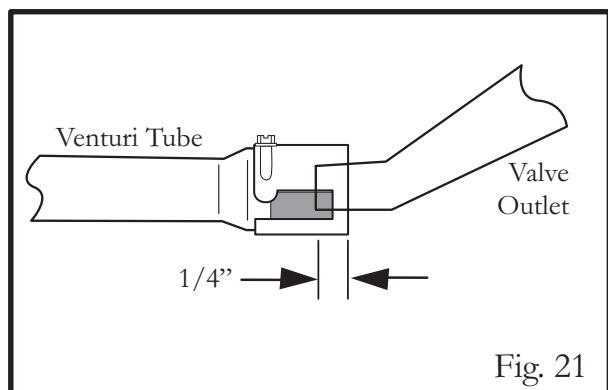

Fig. 21
• Reinstall the burners properly over the valves (see Fig. 21).
If burners are removed for cleaning or adjustment, always confirm that they have been reinstalled correctly over the valve outlets (see Fig. 21). The valves should extend into the burner venturis 1/4" minimum.